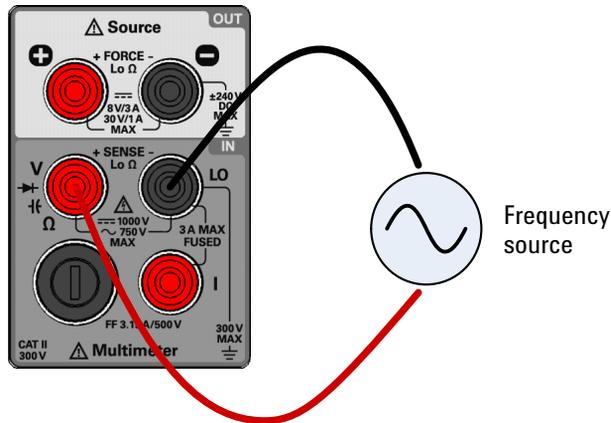

Figure 2-5 Terminal connections for frequency, pulse width, and duty cycle measurements via the voltage path
- 2 Connect the red and black test leads to input terminals **V** (red) and **LO** (black) respectively as shown in Figure 2-5.
- 3 Connect the red and black test leads to input terminals **V** (red) and **LO** (black) respectively as shown in **Figure 2-5**.
- 3 Connect the red and black test leads to input terminals **V** (red) and **LO** (black) respectively as shown in Figure 2-5.